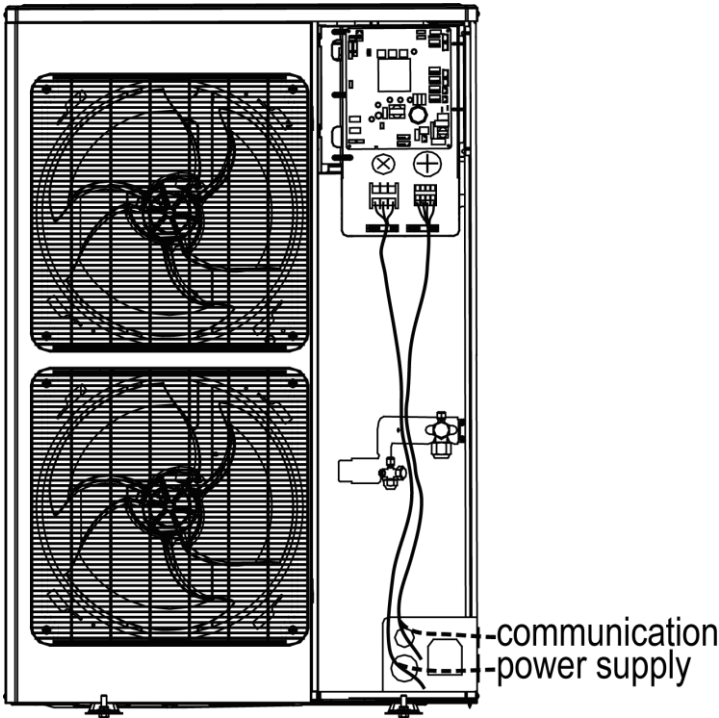

Fig. 28 Engineering Wiring View of AEG04MMIH, AEG05MMIH, AEG06MMIH
- (1) Please refer Fig. 28 for engineering wiring. If there is the hole for cable tie in wiring route, please fix the wire with cable tie. Connect the power cord and communication cable to the corresponding terminal board and grounding screw according to the wiring diagram.
- (2) Please be noted that engineering wiring cannot touch the pipe and appliance.
- (3) This figure is only applicable for engineering wiring reference of power supply and communication cable. If there are differences between the figure structure and actual unit, please refer to the actual unit.
- (4) For engineering wiring, please refer to the wiring diagram provided with the unit.